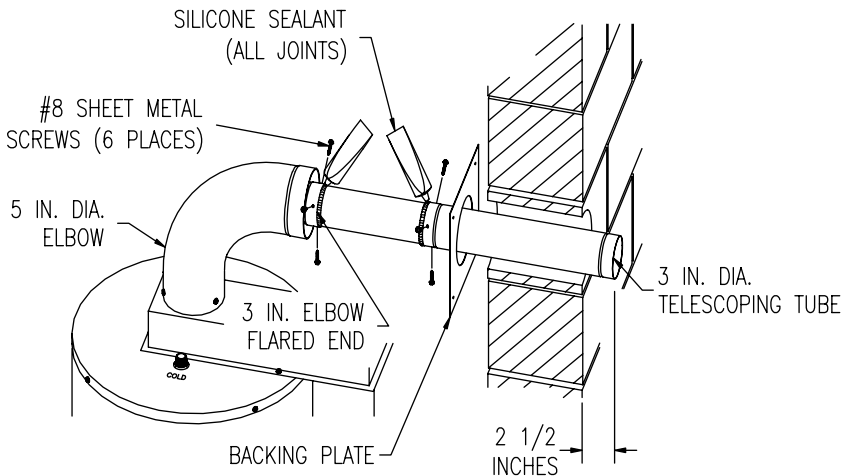

Figure 15a
Extend the three (3) inch (7.6 cm) diameter telescopic tube to its maximum length and slide the backing plate over it. Place the large end of the three (3) inch (7.6 cm) diameter telescopic tube through the hole in the outside wall. Insert the smaller end of the three (3) inch diameter (7.6 cm) telescopic tube into the flared end of the three (3) inch (7.6 cm) diameter elbow, one (1) inch (2.5 cm) (or until seated). Drill three (3) 1/8 inch diameter holes, 120° apart, through the three (3) inch (7.6 cm) diameter elbow into the three (3) inch (7.6 cm) diameter telescopic tube. Fasten with three (3) #8 sheet metal screws (supplied). Adjust the overall length of the three (3) inch (7.6 cm) diameter telescopic tube so that 2-1/2 inches (6.4 cm) extends beyond the outside wall. Drill three (3) 1/8 inch diameter holes, 120° apart, through the three (3) inch (7.6 cm) diameter telescopic tubes where the small and large sections overlap. Fasten with three (3) #8 sheet metal screws (supplied). Using the supplied RTV silicone sealant, apply a sufficient amount to seal all joints. (See Figure 15a).